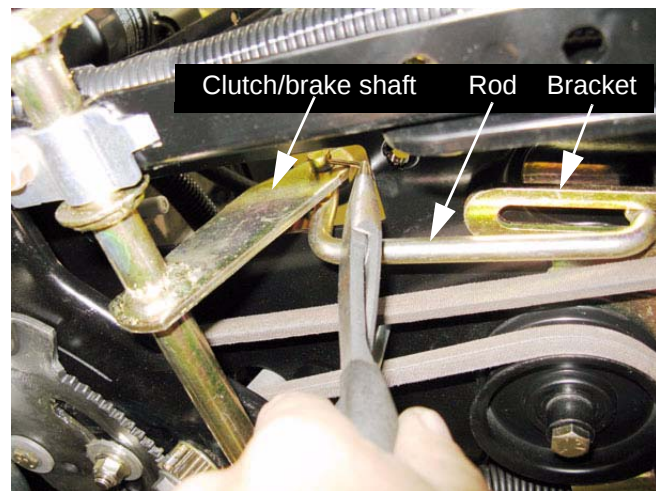

Figure 5.36
3. Disconnect the rod that joins the arm at the left side of the clutch/brake shaft to the drive belt tensioner pulley bracket. See Figure 5.36.